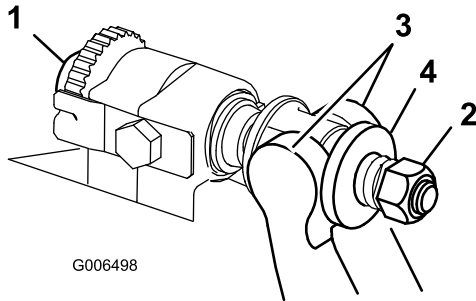

Figure 26
1. Turn bedbar adjuster screws counterclockwise to back the bedknife away from the reel (Figure 26).
2. Back out the spring tension nut, until the washer is no longer tensioned against the bedbar (Figure 26).